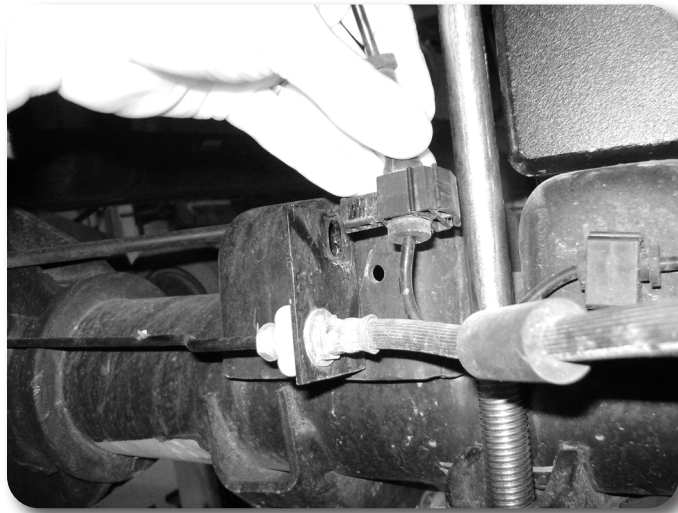

Figure 51
6. Remove the ABS wire clips from the metal tabs just inside of the leaf springs. Remove the plastic clips from the ABS wire. **Figure 51**